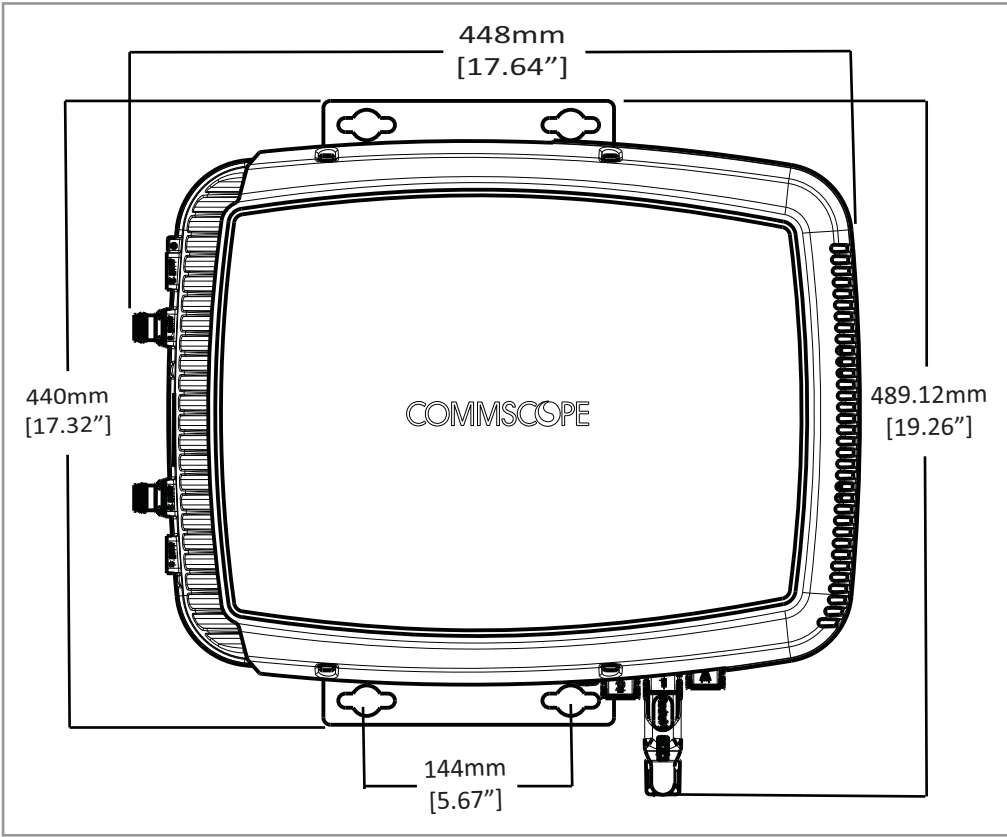
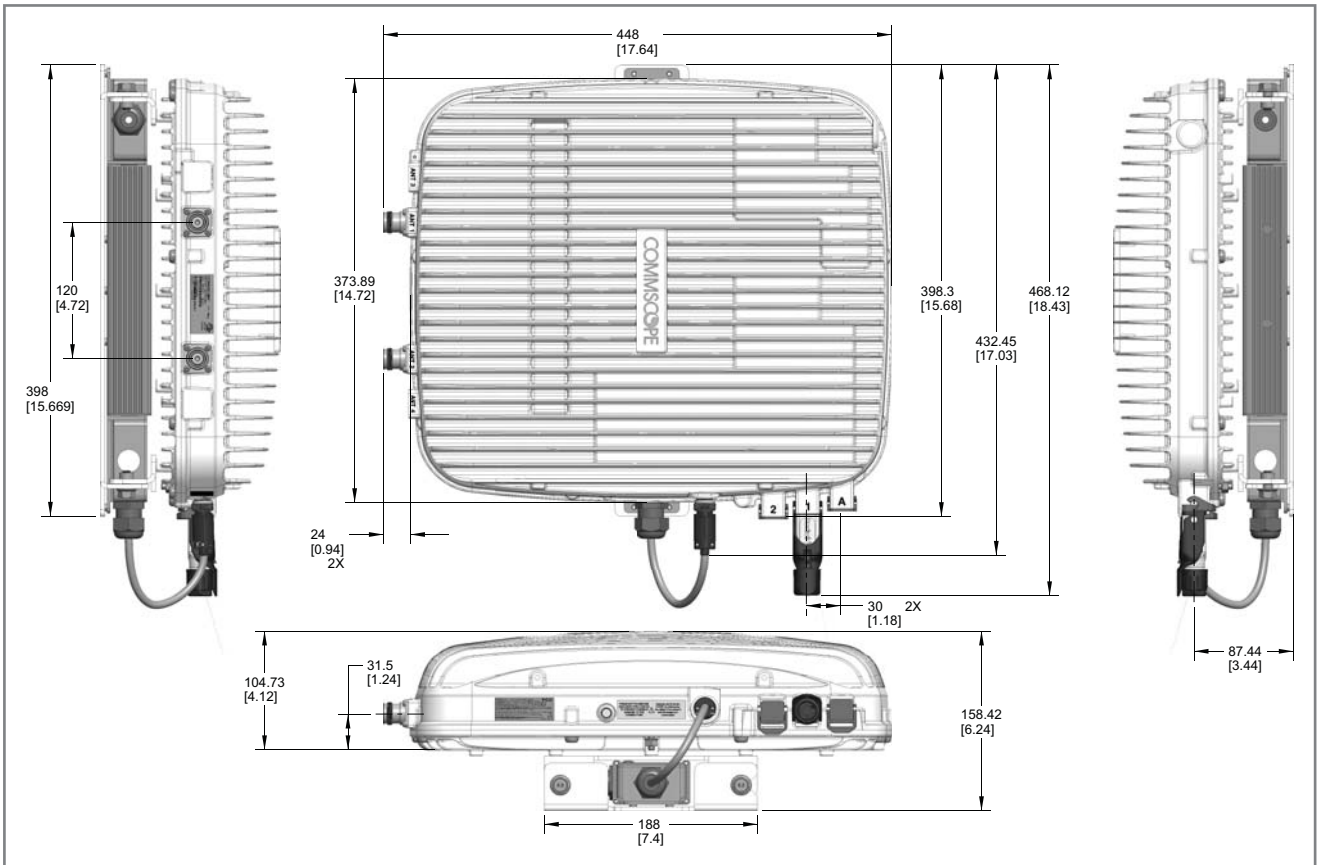

Figure 7-1. Mounting Dimensions for a CAP L Mounted with the Flat Mounting Bracket Kit
Figure 7-3. Mounting Dimensions for a CAP L Mounted with the 240W AC/DC Power Supply Kit
- Use the dimensions shown in Figure 7-1 on page 91 through Figure 7-3 on page 92.